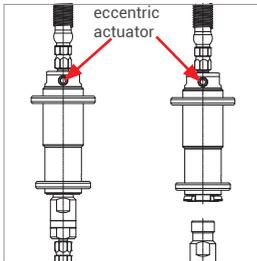

Figure 11
- ▶ Turn the eccentric actuator (Pos. 2) by 180° using an Allen key A/F6 (*Figure 11*) → the clamping jaws will open